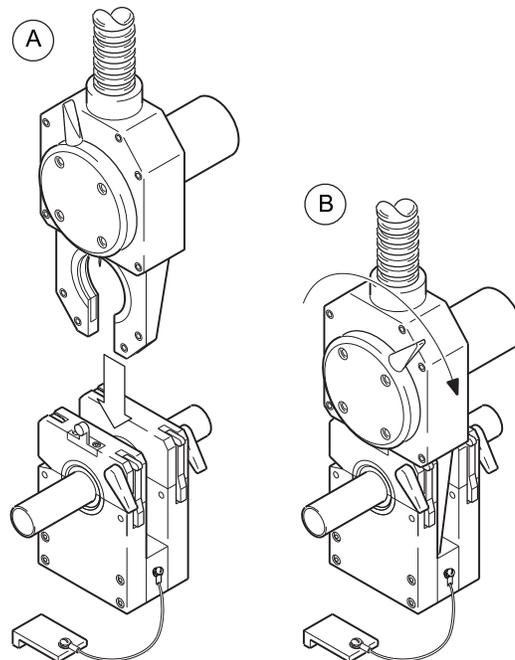

Figure 21 Mating the Weld Head to the Fixture Block
2. Insert the weld head into the fixture block. See Figure 21(A).
3. Rotate the locking lever clockwise to secure the weld head. See Figure 21(B).